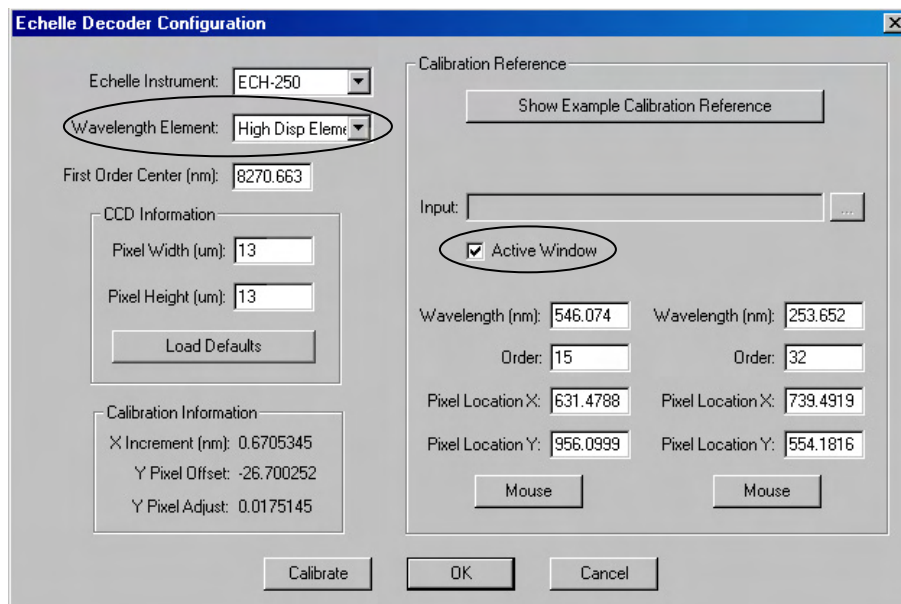

Figure 7. Echelle Decoder Configuration dialog box
2. On the **Echelle Control** dialog box, click on the **Configure...** button to open the **Echelle Decoder Configuration** dialog box (Figure 7).